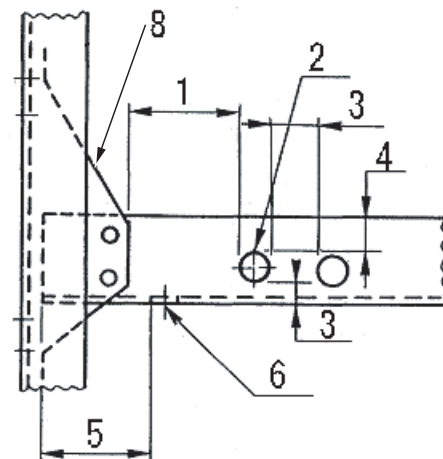

Fig. 2
- Holes in the web of the channel type cross member should be 50 mm min. from the end of the cross member. (Refer to Fig. 2)